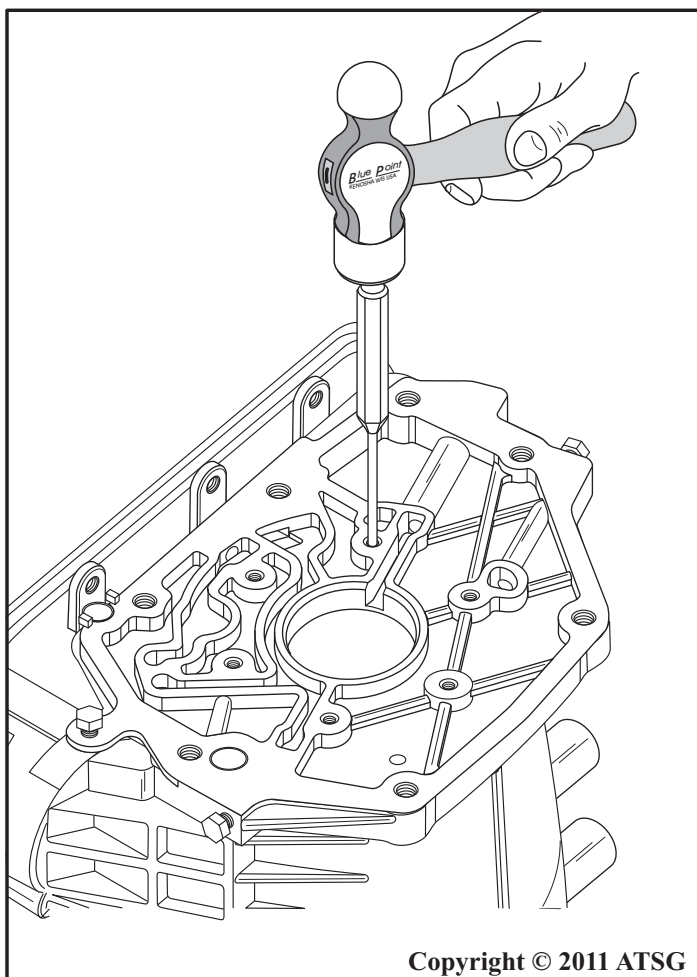

Figure 87
1. If replacement of the low roller clutch cam is necessary, tap the old cam out of the case using a pin punch inserted through bolt holes at rear of case, as shown in Figure 87.